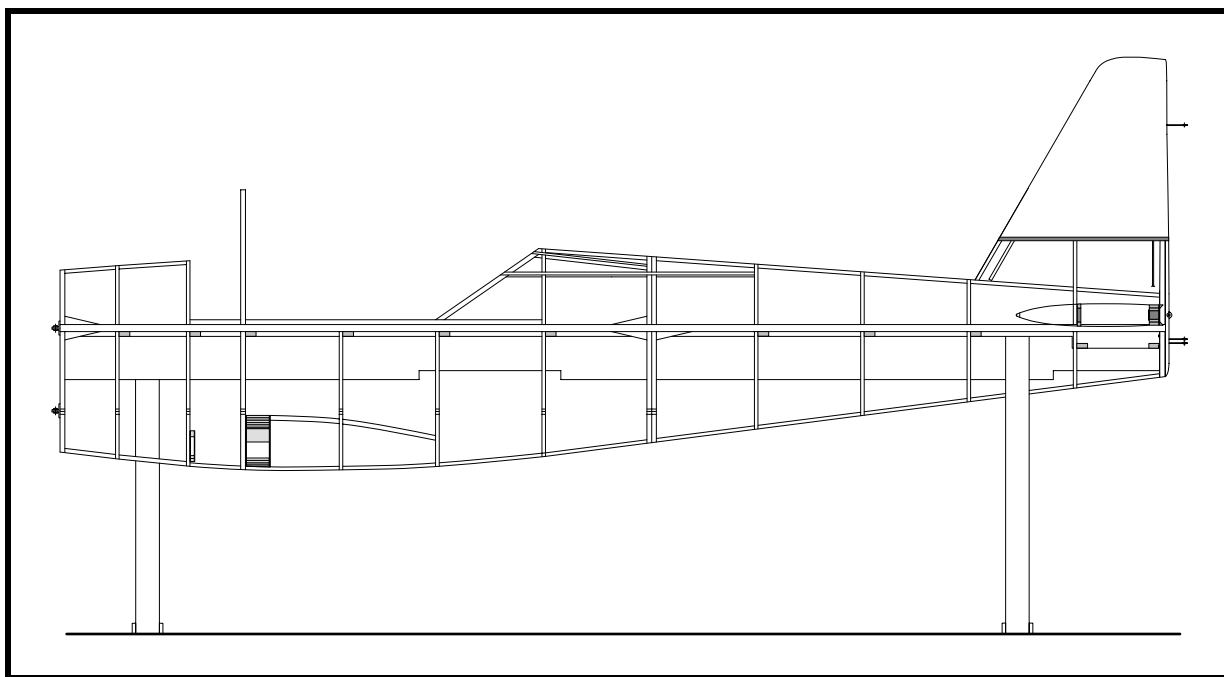

Figure 31
- ☐ Cut, fit and sand the cutouts for the 30x15 shoulder belt supports in the diagonal frame. See Figure 31.